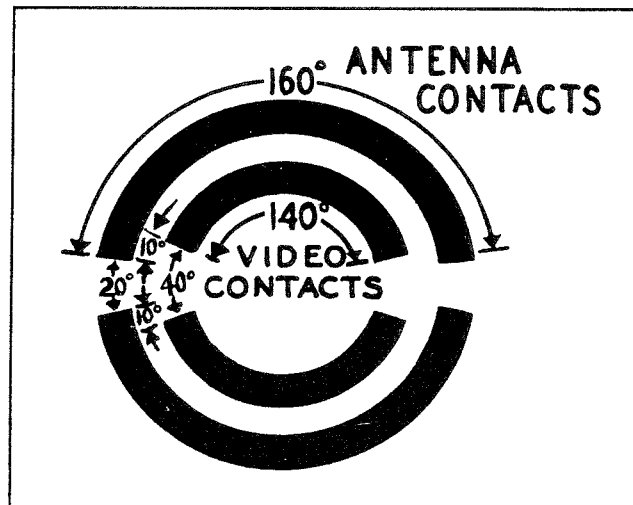

Figure 5-33. Antenna-Video Switch Contact Timing
(6) If the antenna-video switch is properly adjusted, the number of degrees the various antenna and video contacts are closed or open are shown in figure 5-33. A small variation in the antenna contact adjustment from these figures is permissible.